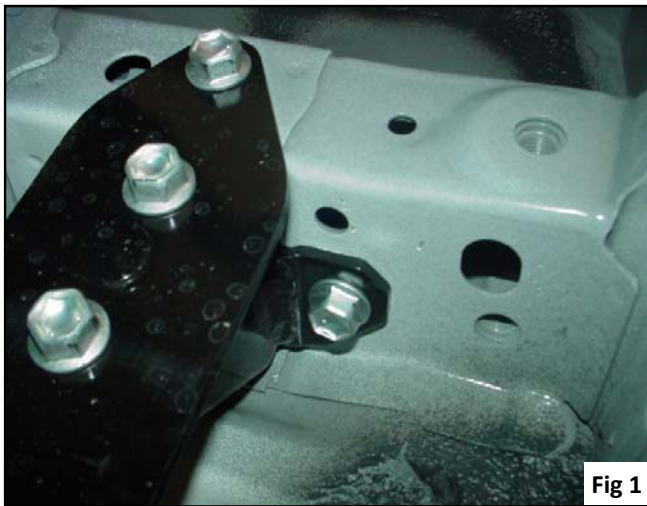

Fig 1
1. Locate mounting holes underneath vehicle (**Fig 1**).